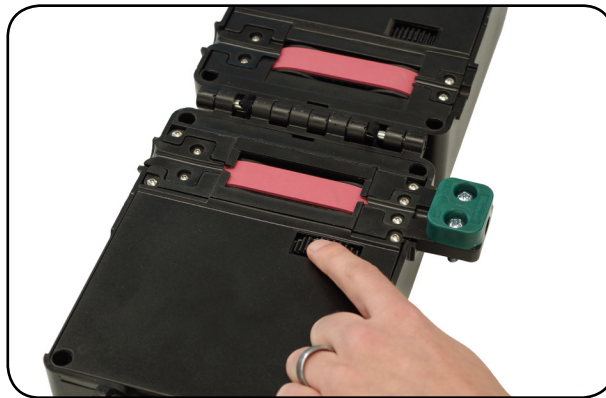

Figure 2
Step 2: Once the visible part of the belt is clean, turn the belt drive gear to expose the other areas of the belt that has not been cleaned yet (**Figure 2**).